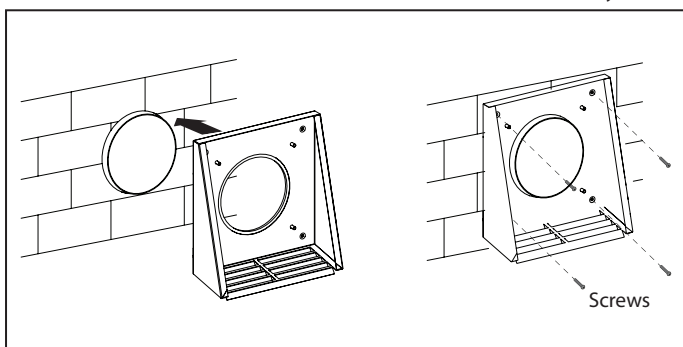

Fig. 13a.
- Fig. 13a – VENTO Ergo A25-1 Pro model. Fix the back part of the outer ventilation hood to the wall with the screws 4x40 from the delivery set.